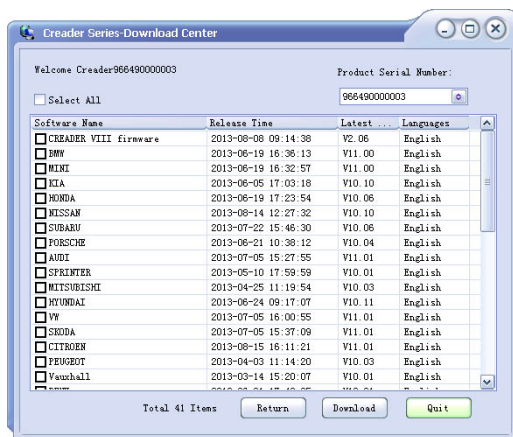
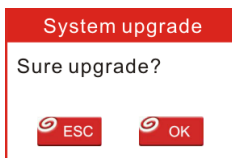

Figure 7
Figure 8
10. Reopen the Creader VII+ / Creader VIII update tool, select the updates you would like to perform or click "Select All" and click **Download** to start downloading. See Figure 7.
11. Once all steps are complete, reinsert the TF card into the tool and power the tool via USB cable or via OBD II cable (one end to OBD II connector of Creader VII+ / Creader VIII and the other end on the vehicle's DLC). A dialog box (Note: If only diagnostic softwares are updated and no firmware packages are downloaded in Figure 7, this box will not appear) prompting you to upgrade will pop up on the screen (See Figure 8), select **OK** to proceed.